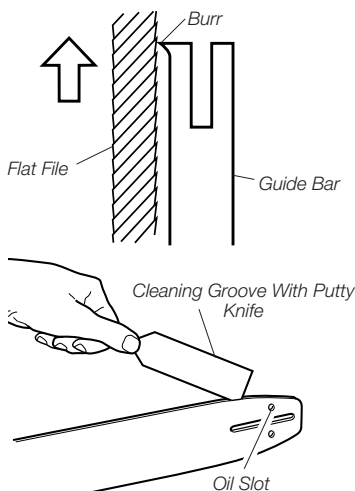

Figure 21 - Guide Bar Maintenance
5. Remove sawdust from guide bar groove periodically. Use putty knife or wire (see Figure 21).